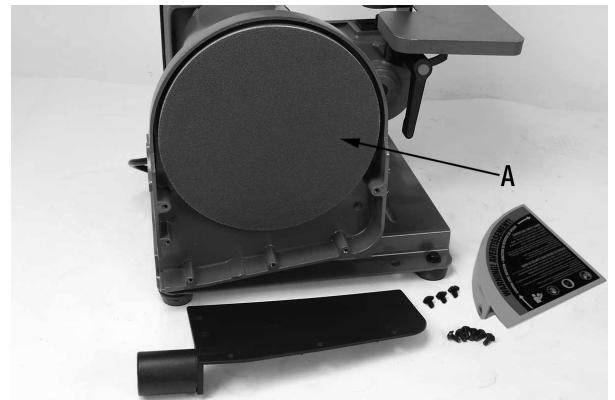

Figure 16
2. Remove disc dust chute as shown in Fig.16 by removing the 6 pan head screws that secure the dust chute. Also remove the safety guard by removing the 3 pan head screws.
3. Peel off the used 8" sanding disc (A) Fig.16. Once remove, clean the aluminum disc. Make sure the aluminum disc is perfectly clean and dry before attempting to install a new sanding disc.
2. Remove disc dust chute as shown in Fig.16 by removing the 6 pan head screws that secure the dust chute.